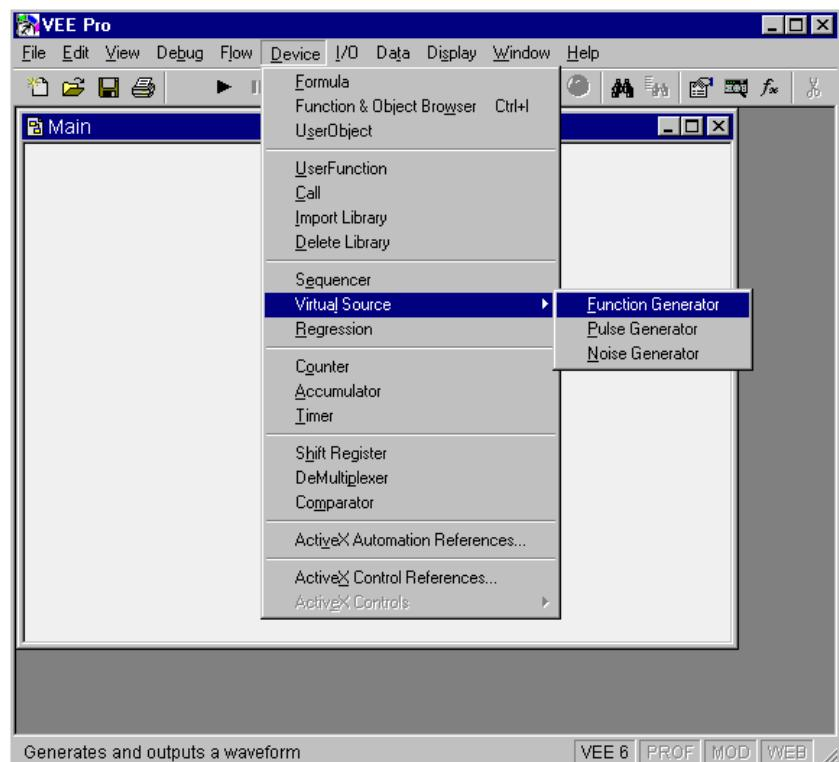

Figure 1-5. Adding Objects to the Work Area
1. For example, to add a Function Generator object to the work area, select Device ⇒ Virtual Source ⇒ Function Generator in the menu bar as shown in Figure 1-5.